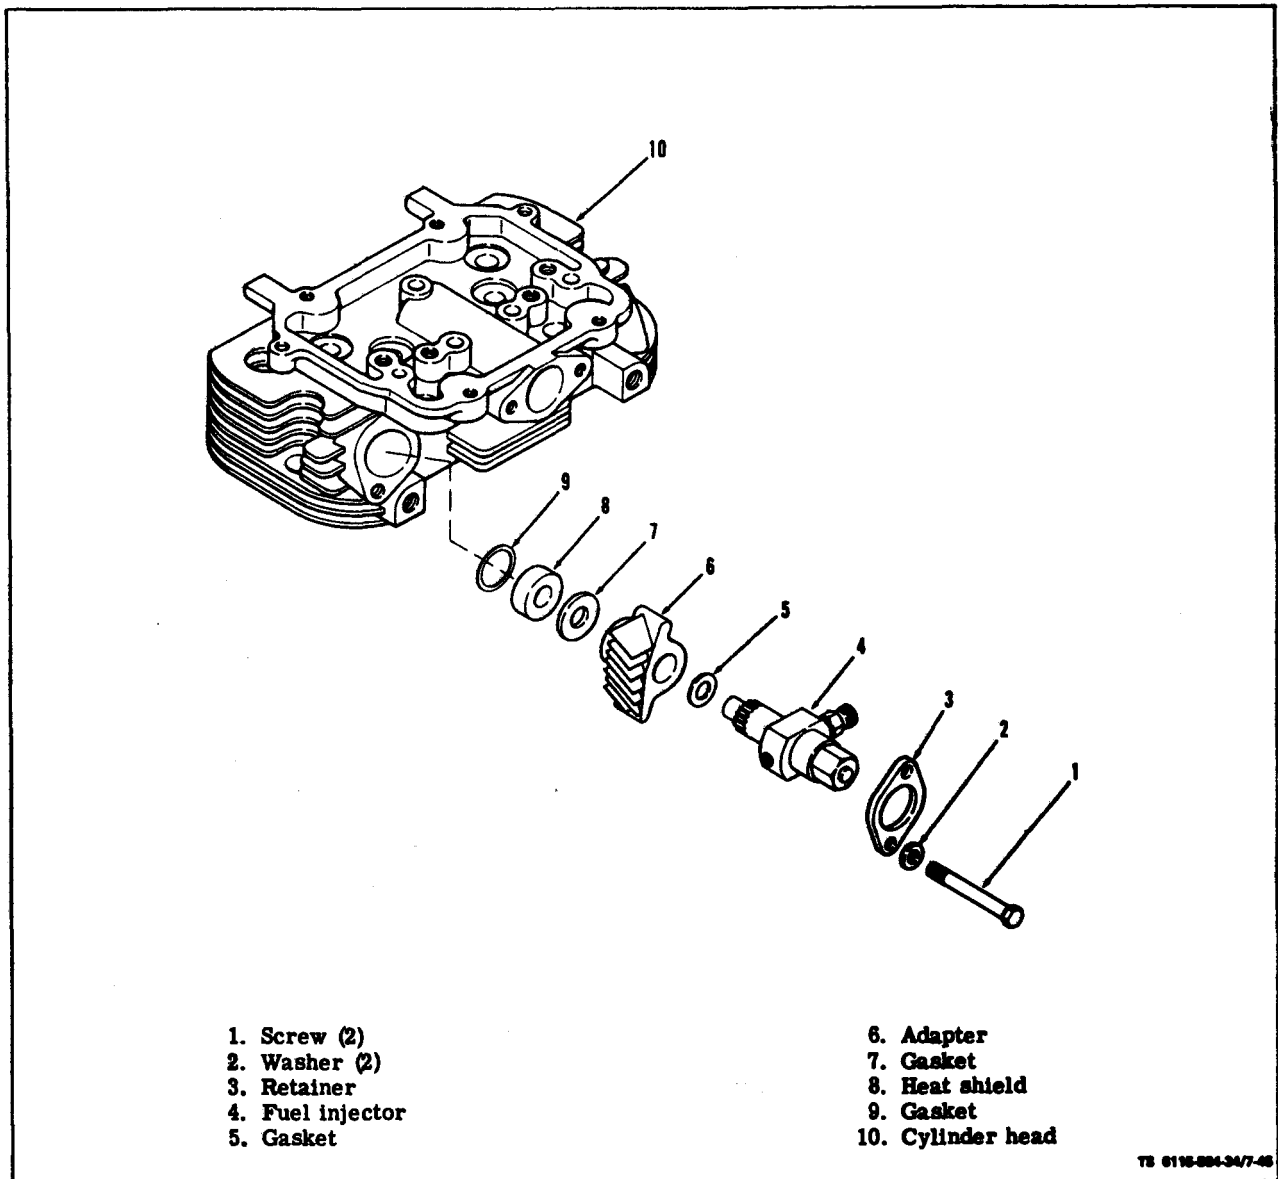

Figure 7-45. Injector Nozzle Removal
(2) Remove screws (1, figure 7-45), washers (2) and retaining flanges (3).
(3) Remove fuel injector (4), gasket (5), aapter (6), gasket (7), heat shield (8) and gasket (9). Separate injector from other components.
(1) Make sure old gasket material has been removed from injector.
(2) Assemble new nozzle gasket (5, figure 7-45), adapter (6), gasket (7), heat shield (8) and gasket (9) on injector (4).
(3) Install injector and assembled parts into cylinder head (10).
(4) Install retaining flange (3) and tighten down with screws (1) and washers (2).
(5) Reconnect fuel lines as described in paragraph 7-2.
(6) On ASK equipped generators, refer to Operator and Organizational Maintenance Manual and replace right panel assembly.